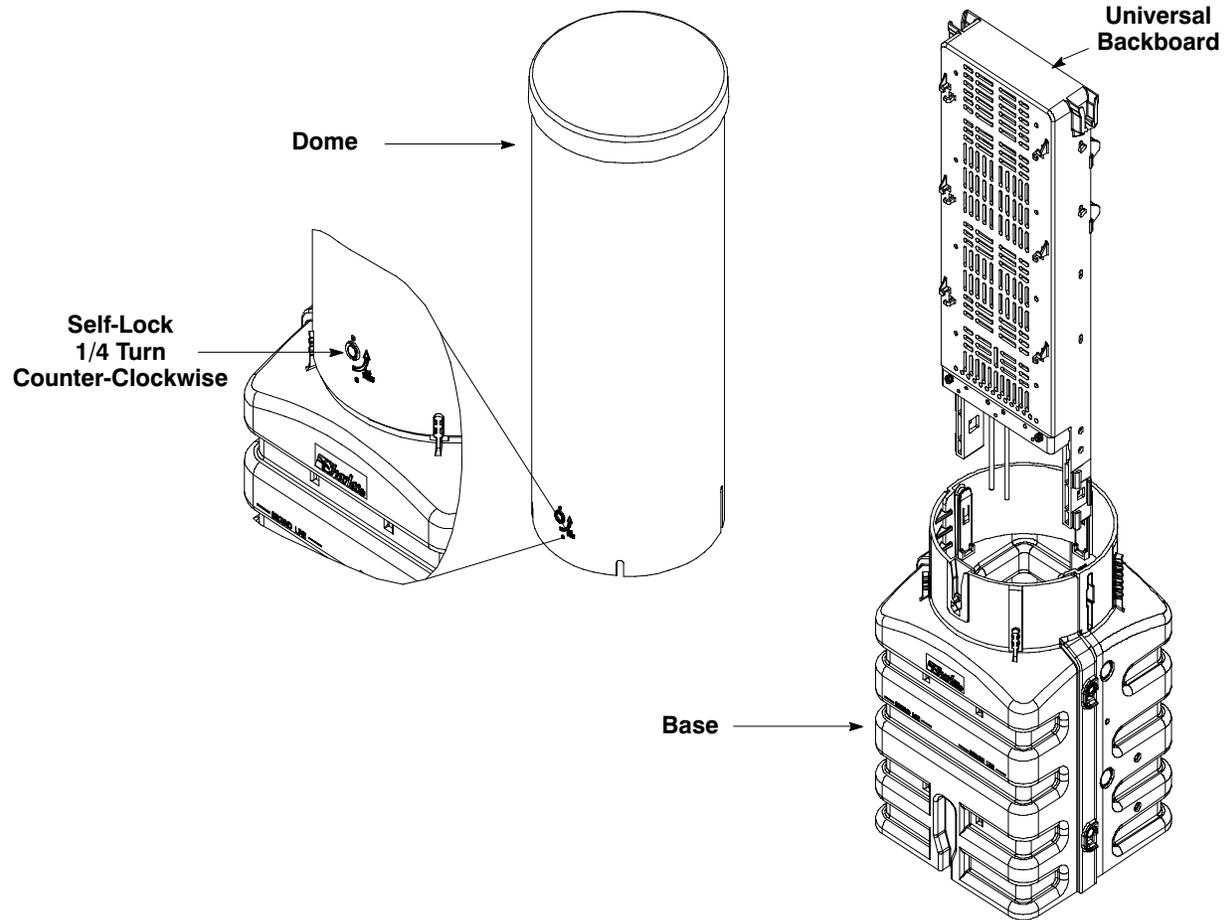

Figure 1. CP2 Components
3.	Using a 216 tool, rotate the self-lock a 1/4 turn counter-clockwise while lifting the dome at the same time. (See Figure 1.)